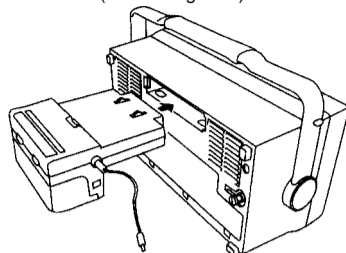
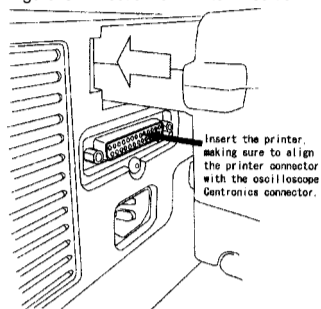

Figure 3. Direction of Printer Insertion
Figure 4. Position adjustment of connectors
5. Insert the printer into the oscilloscope as shown in Figure 3. Make sure that the Centronics connectors snugly mate and correctly align with each other while observing the printer insertion from the side (refer to Figure 4).